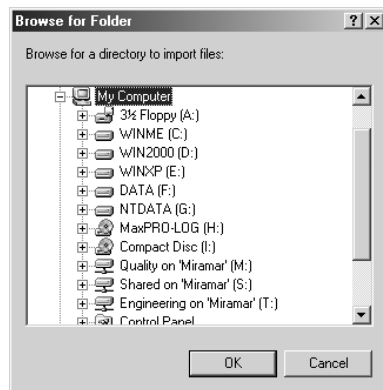

Figure 12 A screenshot of the Import File dialog box.
- Click on the Utility menu, then on Import File (or simply click on the Import File button on the toolbar of the Main Screen). A dialog box appears (See **Figure 12**).